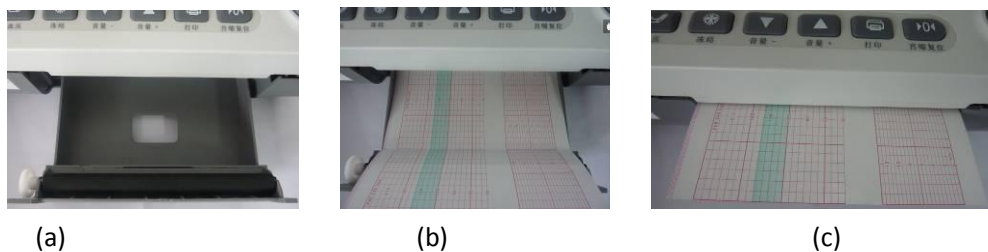

Fig. 10-2 Loading Printing Paper
1. Open the printer compartment door: Hold the printer compartment door buckle, apply force slight upwards with fingers to bounce off the compartment door, and pull out to open the printer compartment door, as shown in Fig. 10-2 (a).
2. Expand the top page of the printing paper from the outside (by the side of the machine) to the inside (by the side of the body) to expose the surface of the thermal lattice (FHR lattice is on the left, TOCO lattice is on the right), and load the paper into the paper cassette as shown in Fig. 10 - 2 (b). Pull out the printing paper for a small fraction, and ensure that both sides of the paper and both sides of the compartment door are substantially parallel, as shown in Fig. 10-2 (c).